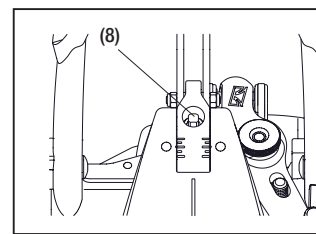
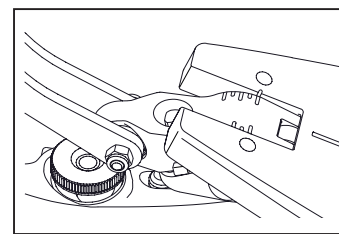
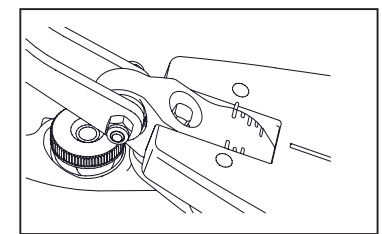

Fig.5
Fig.5-1
Fig.5-2
After fixing the beater angle, the angle of the footboard can be adjusted independently. To adjust the footboard angle, loosen the square headed bolt (8) on the front end of the footboard (Fig.5). The factory standard position is shown in Fig.5. The highest position is Fig.5-1, and the lowest angle is Fig.5-2. Once the desired angle is reached, tighten the bolt (8) firmly.